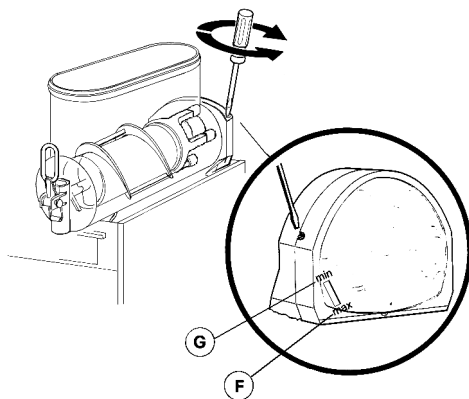

figure 4
- 1 - **Granita viscosity adjustment:** proper Granita viscosity is factory preset. If an adjustment is necessary, use a standard screwdriver to turn the adjustment screw clockwise to increase viscosity and counterclockwise to decrease viscosity (see figure 4). When adjusting the viscosity for a thicker product, the viscosity indicator (Item F) will lower. When adjusting viscosity for a thinner product, the indicator (Item F) will rise.